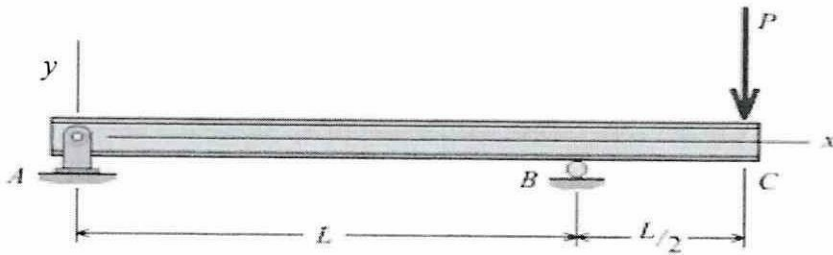

Figure Q3.1
- Q3** For the beam and loading shown in **Figure Q3.1**, use the double integration method to determine the following by taking  $EI$  is constant for the beam.